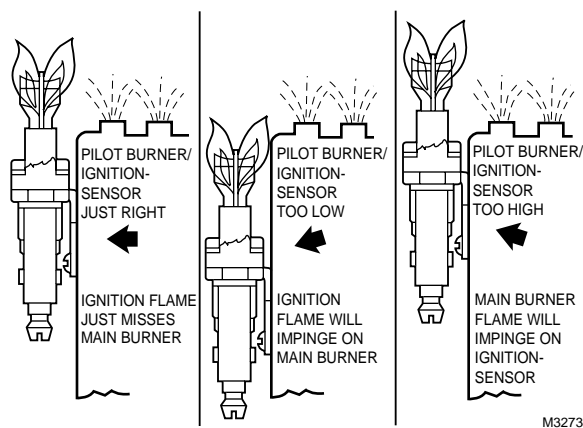

Fig. 14. Location of pilot burner/igniter-sensor.
- 3 Mount the pilot burner/igniter-sensor so that the pilot flame remains properly positioned with respect to the main burner flame. See Fig. 14.